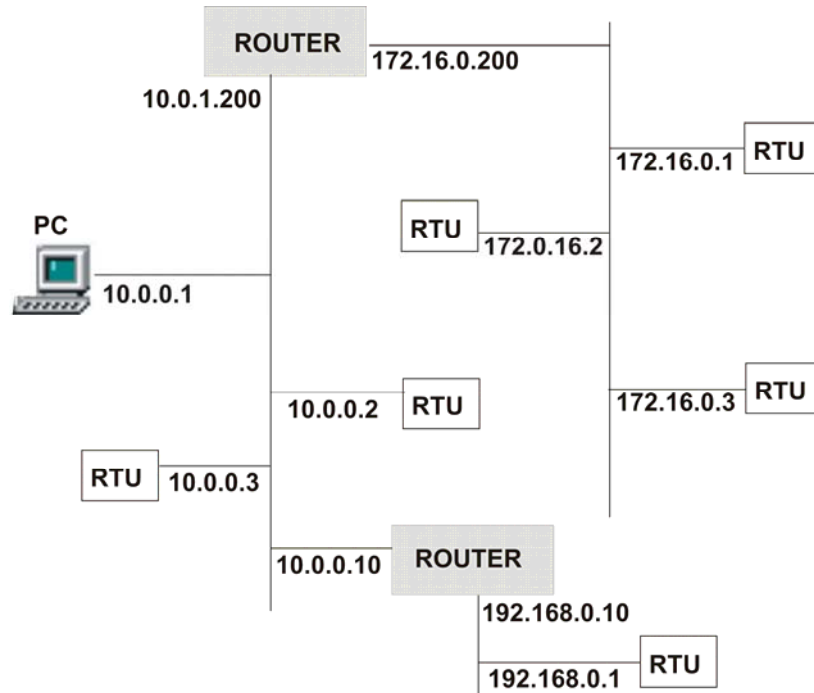

Figure 1-16. Separate Networks that Share a Router
In *Figure 1-16*, an OpenBSI workstation (PC) only accesses devices in the 10.x.x.x network.